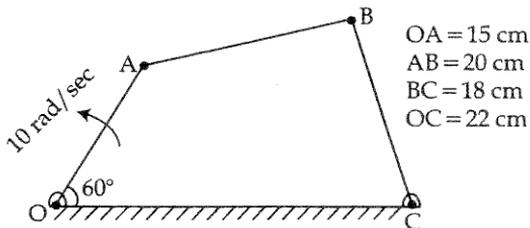

Figure 4
- (a) Determine the velocity and acceleration of point B in a 4 bar mechanism shown in figure 4. Assume that link OA rotates with uniform angular velocity of 10 rad/sec counter clockwise as seen by the observer with uniform angular velocity.